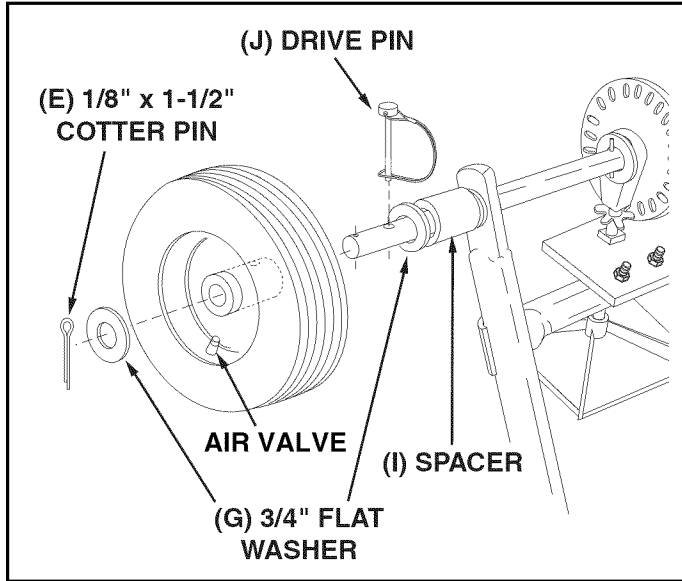

FIGURE 4
STEP 4: (SEE FIGURE 4)
10. Assemble a spacer (I), a 3/4" flat washer (G), a wheel (air valve facing out) and another 3/4" flat washer (G) onto the end of the axle that has both the **large and small holes**.
11. Install a 1/8" x 1-1/2" cotter pin (E) into the small hole in the end of the axle.
12. Open the bail on the drive pin (J) and install it through the wheel and the large hole in the axle. Close the bail to lock the pin in place.
(Refer to figure 4 on page 5.)
- If the axle, slotted gear and sprocket assembly is disassembled, mark down the positions of the parts as they are removed. The drive wheel and sprocket positions in relation to the slotted gear determine which direction the spreader plate will spin. Be sure to reassemble them in their original positions. (Refer to figure 4 on page 5.) Use shim washers (Ref. no. 21 on pages 10 and 11) as needed for minimum backlash. Add grease to gear and sprocket.